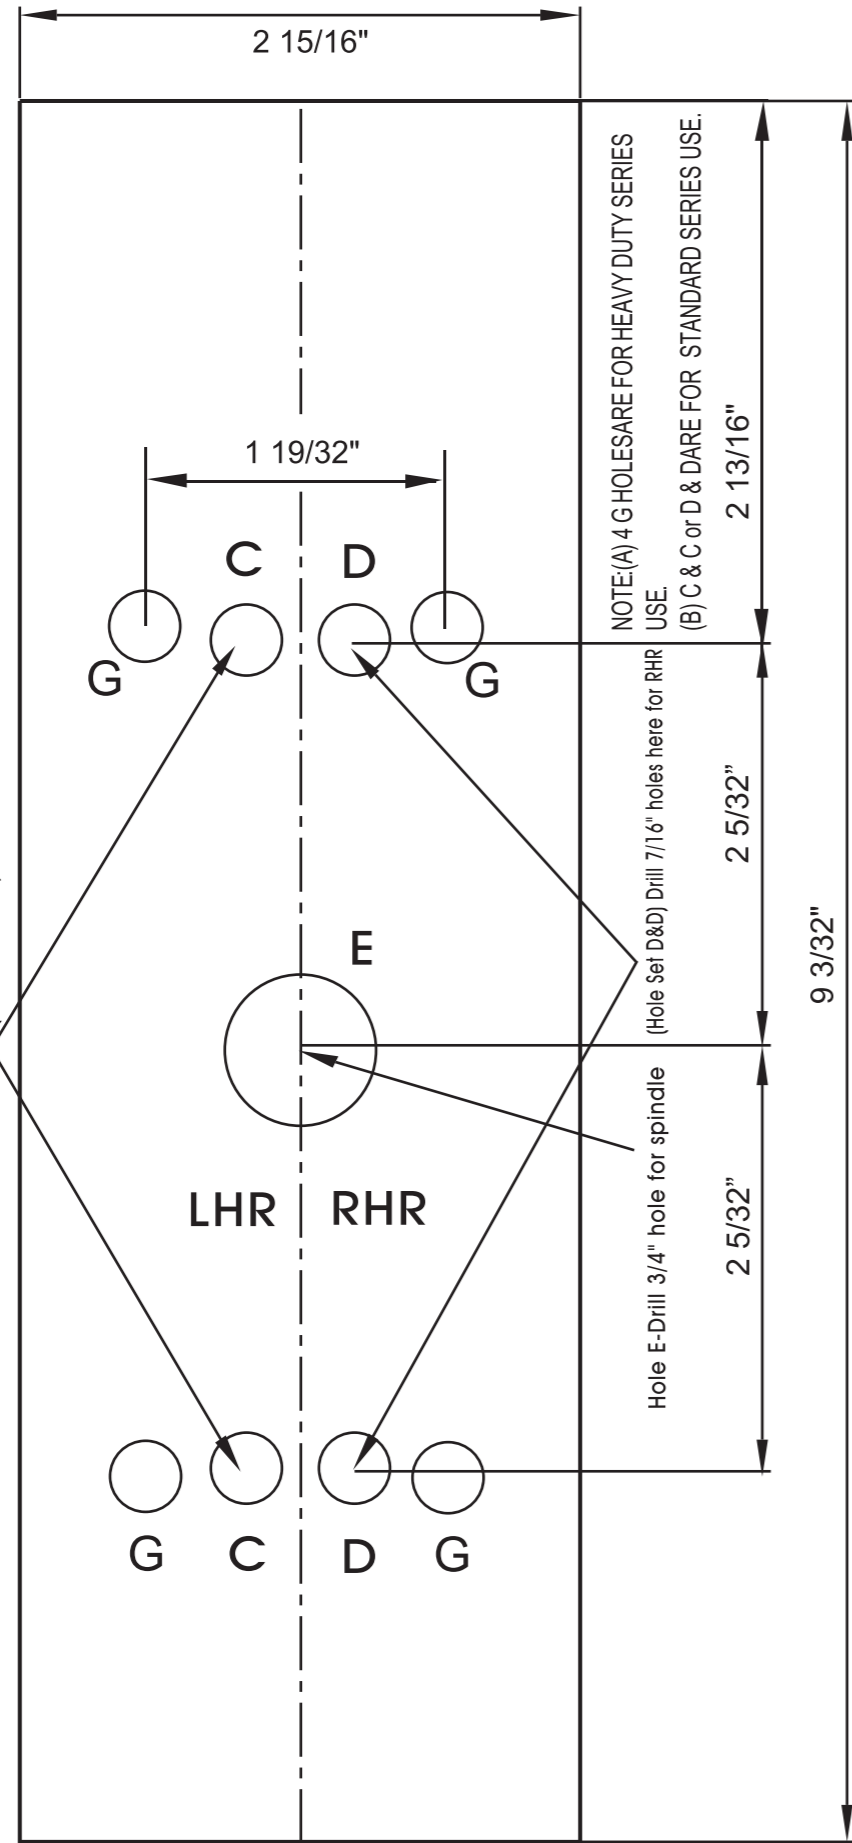
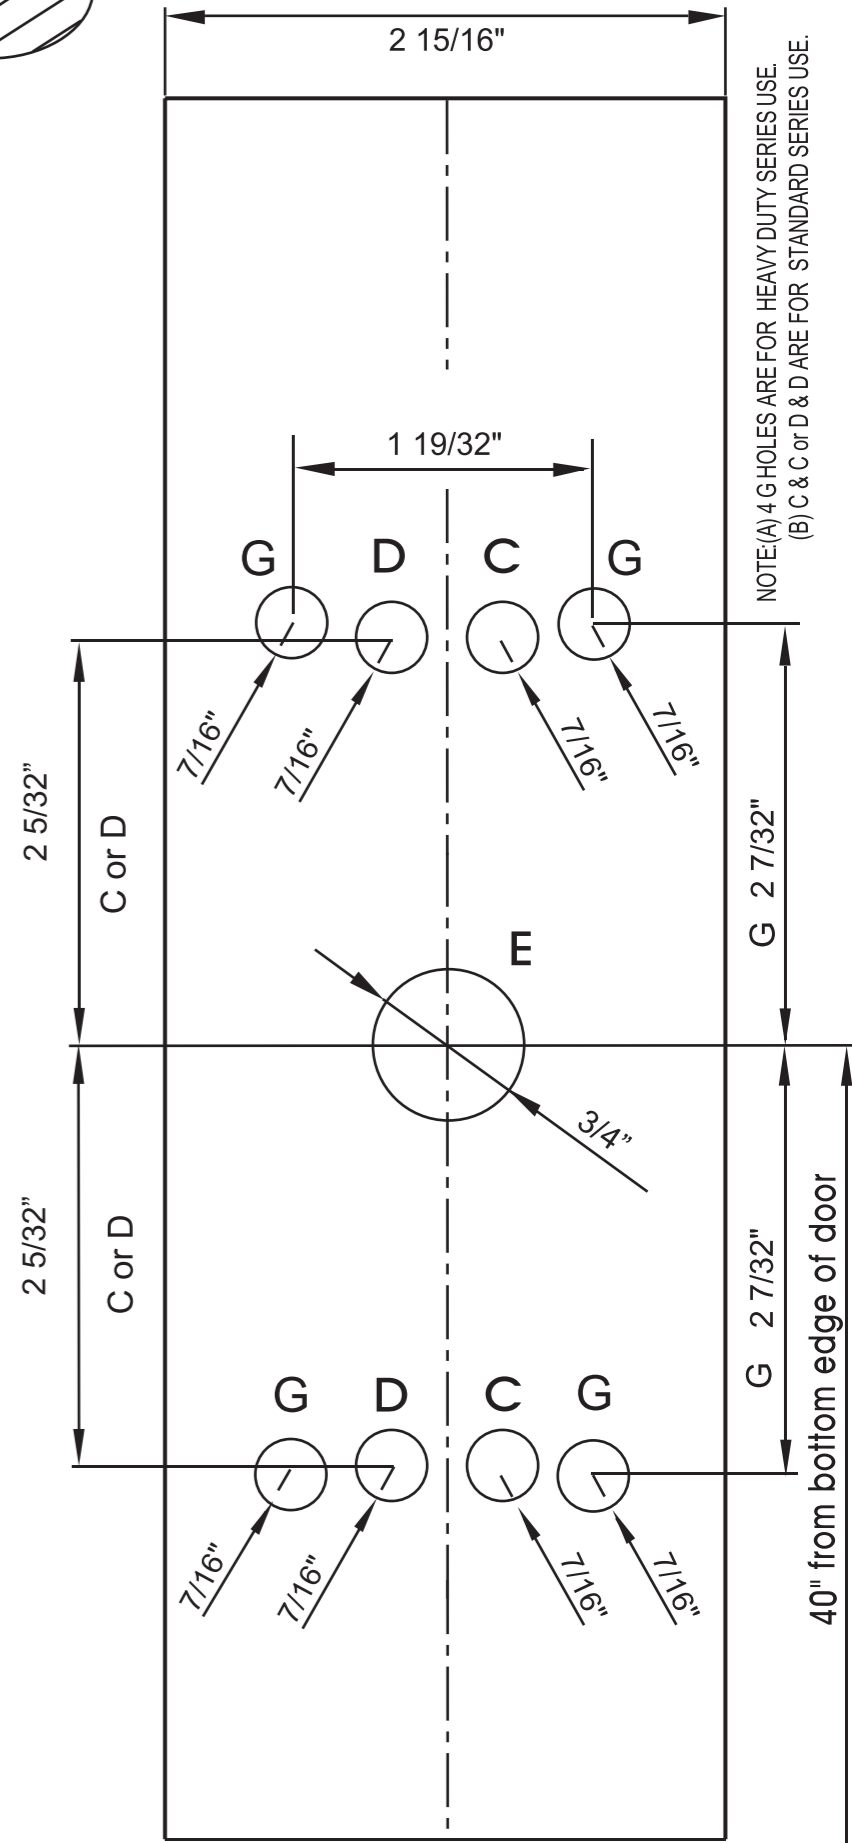

Fig7
Fig9
4. FOR HEAVY DUTY SERIES SCREWTHRU BOLTS INTO (4) G HOLES & FOR STANDARD SERIES SCREW THRU BOLTS INTO EITHER C&C FOR LHR OR D&D FOR RHR AND TIGHTEN.5. IF CYLINDER IS REQUIRED, INST ALL CYLINDER INTO CYLINDER HOLE WITH CYLINDER COLLAR AND SECURE WITH CYLINDER RETAINING RING RHR AND TIGHTEN.5. IF CYLINDER IS REQUIRED, PUT THE LEVER AT THE REQUIRED LHR OR RHR POSITION , INSERT SCREWS INTO HOLES F&F AND TIGHTEN TO MAKE LEVER RIGID.
7. PROCEED WITH TEMPLATING DOORAS SHOWN IN FIG 7 AND FIG 9 FOR EITHER HEAVY DUTY OR STANDARD SERIES.